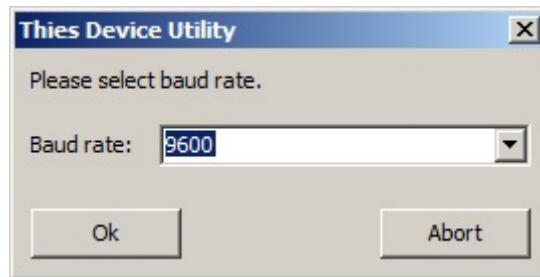

Figure 19 : Baud rate options
- Selection of baudrate (see **Figure 19**)